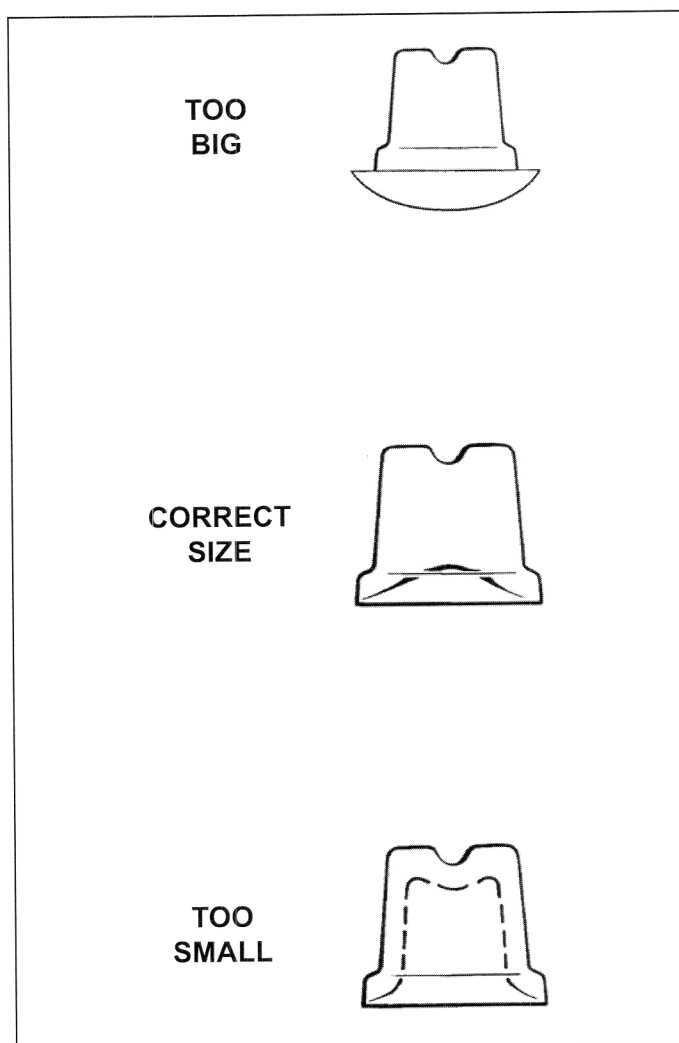

Figure 4-14. Ice Cubes
3. After the following freeze cycle the cubes should have responded to the adjustment. (See Figure 4-14 for proper cube size) If further adjustments are required, perform the adjustments early in the freeze cycle.